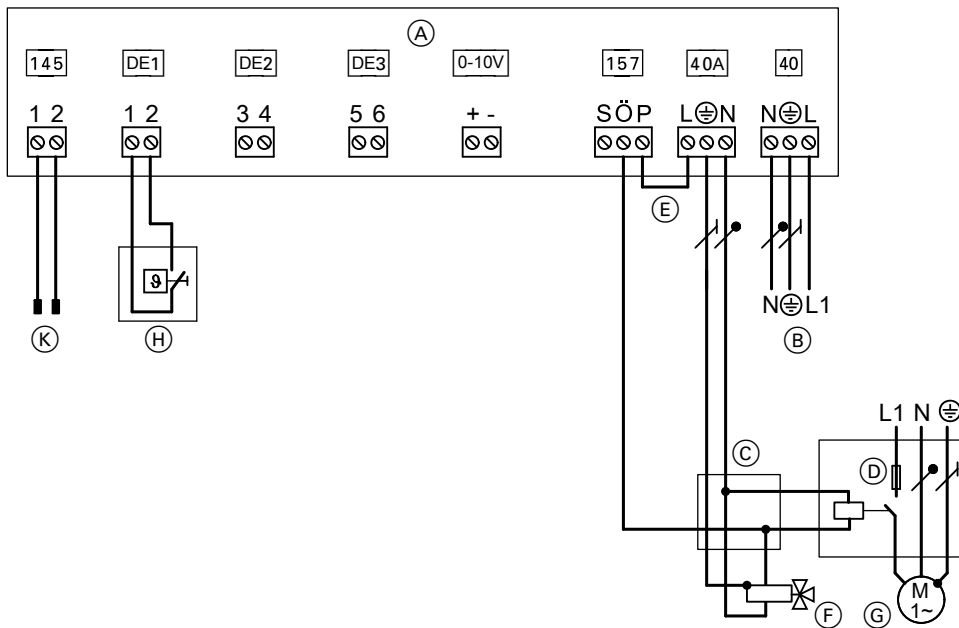

Fig. 32
- Make connections to EA1 extension **only** in accordance with Fig. 32.